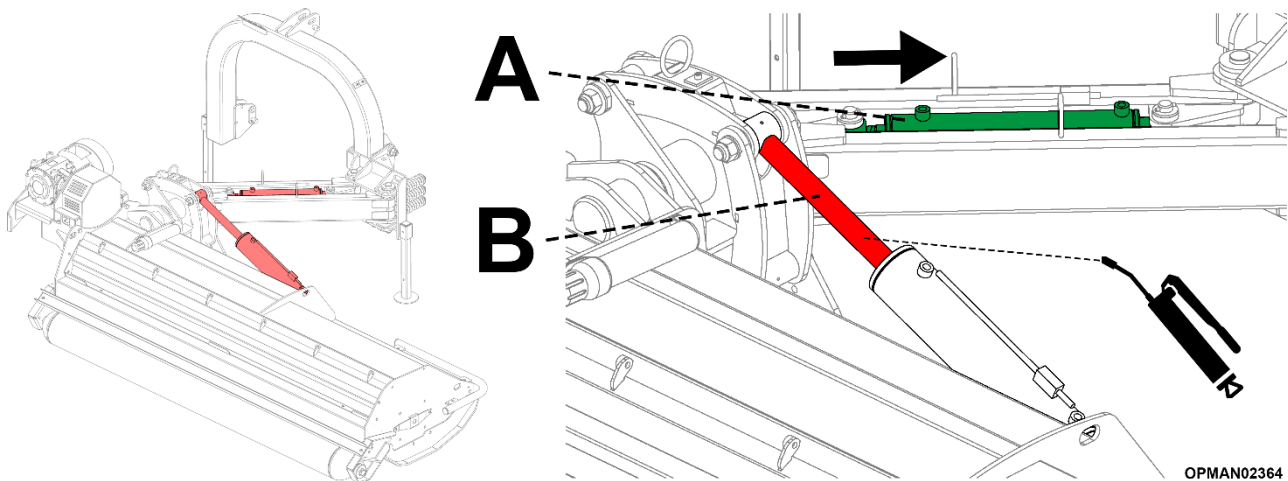

Figure 6
- With reference to Figure 6; place the machine into a suitable and stable position, retract the hydraulic offset ram (A) and liberally coat the chrome plated cowl angle hydraulic ram rod on the machine (B) in a suitable corrosion prevention product to protect the chrome plated component from corrosion.